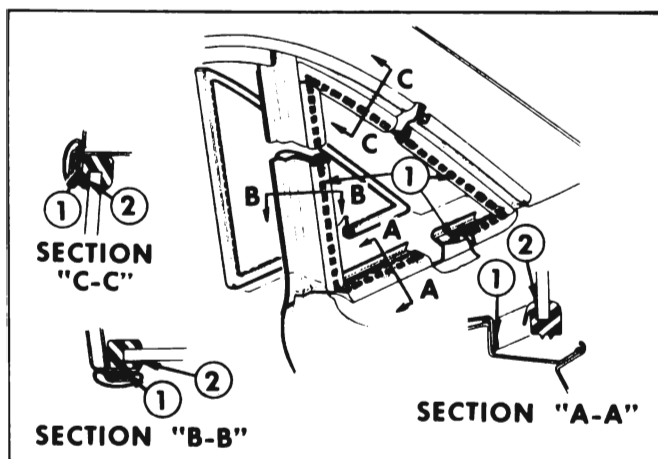

Figure 13-54—Rear Quarter Window Sealing
3. To install rear quarter window, first clean off all old sealer from rubber channel and body opening. Apply a bead of medium-bodied sealer on wall of window opening rabbet completely around window opening to effect a seal between body and rubber channel. See #1 in Figure 13-54.
apply weatherstrip adhesive (black) between rubber channel and outside surface of glass. See #2 in Figure 13-54.
4. Position glass and rubber channel assembly into window opening and install retainers loosely. Using a pressure type applicator, apply weatherstrip adhesive (black) between rubber channel and outside surface of glass. See #2 in Figure 13-54.